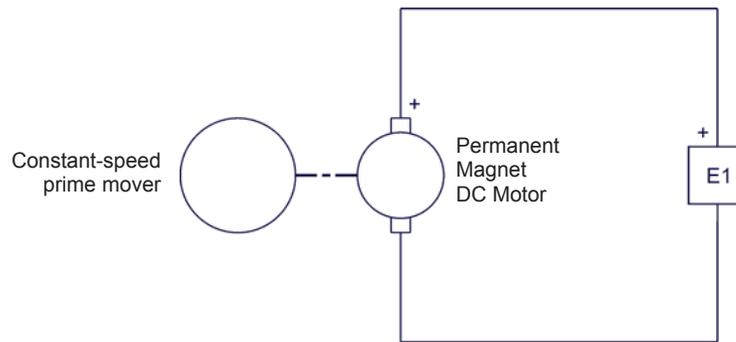

Figure 31. Setup used to plot the voltage-versus-speed characteristic of a permanent magnet dc motor operating as a generator.
13. Connect the equipment as shown in Figure 31. In this circuit, the *Permanent Magnet DC Motor* is driven, via a belt, by the motor in the *Four-Quadrant Dynamometer/Power Supply*. *E1* is a voltage input of the *Data Acquisition and Control Interface*.